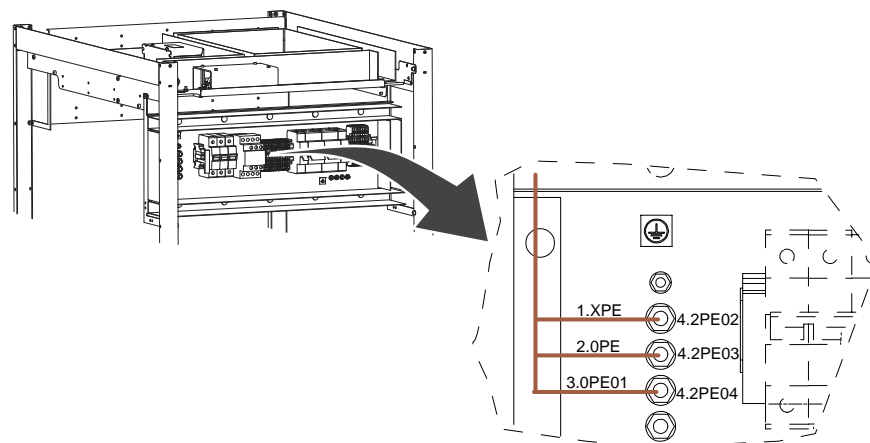

Fig. 4-63 *Protective earth 4.2*
1. Make sure the protective earth cables from table, wall stand and OTC are connected and the bolts are tightened, see Fig. 4-63 *Protective earth 4.2*.